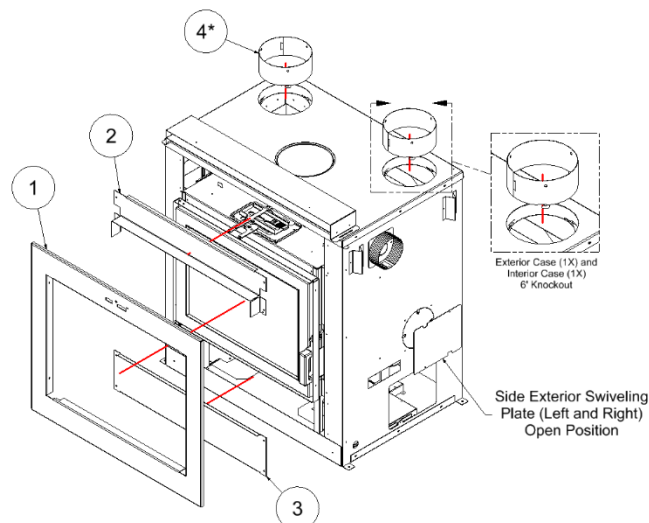

Figure 3-11: Contemporary Surround
The Contemporary surround comprises no louvers; however, an intake into the chase and an outtake through gravity ducts is required for this configuration. The instructions below describe the installation of the Contemporary surround. Refer to Figure 3-11 and Table 3-4 for the instructions below. Refer to Section 3.5 for Gravity Kit installation instructions.
2. Fasten the Top and Bottom Surround Bracket (Item 2 and Item 3 respectively in Figure 3-11) with 4 metal screws each.
3. Place the Contemporary surround (Item 1 in Figure 3-11) within the door holder and secure it in place with 4 black screws (one on each corner). Make sure that the handles of the Combustion Air Control pass through the slots of the surround.
5. Secure the Intake Swivel Covers on the bottom sides of the unit to the **open** position (Figure 3-11).
6. Remove the 6 inch knockouts at the top exterior case (2X) and the top interior shield (2X) of the unit using a flat head screwdriver (Figure 3-11).
7. Install the 6 inch duct adapters (Item 4* in Figure 3-11) on the newly cut knockouts of the exterior case by aligning/inserting the tabs to the slots and turning counter clockwise to lock in place. Note that the duct adapters are included in the Gravity Duct Kits (refer to Section 3.5).
- The intake swivel covers at the bottom sides must remain open for all Contemporary Surround installations (refer to Figure 3-11).
⁹ Item referenced in Figure 3-11.